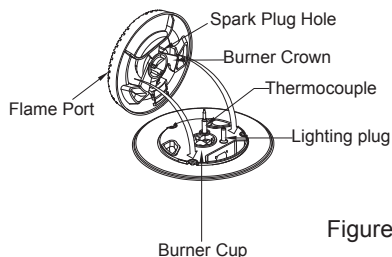

Figure 2
- To do this, ensure that the 2 ribs on either side of the spark plug hole are positioned into the 2 slots on the burner cup. (See figure 2).
- Open the lever A completely on the left and right hinges (fig.2);
- Gently pull out the inner pane of glass(fig.2)